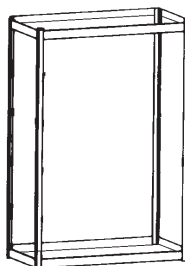

FIG. 2
- Build the top shelf by inserting the Double Rivet Beams (flange up) into the top two keyholes of each post. See Figure 2.